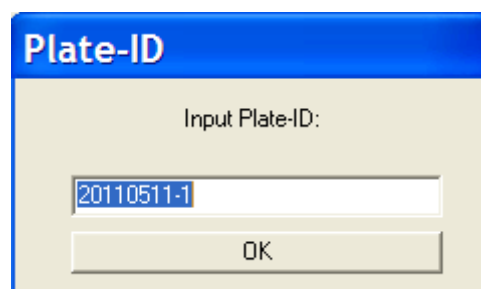

Figure 7-2: Plate-ID
1. From Selection, choose **Matchcode**. Plate-ID appears (Figure 7-2).